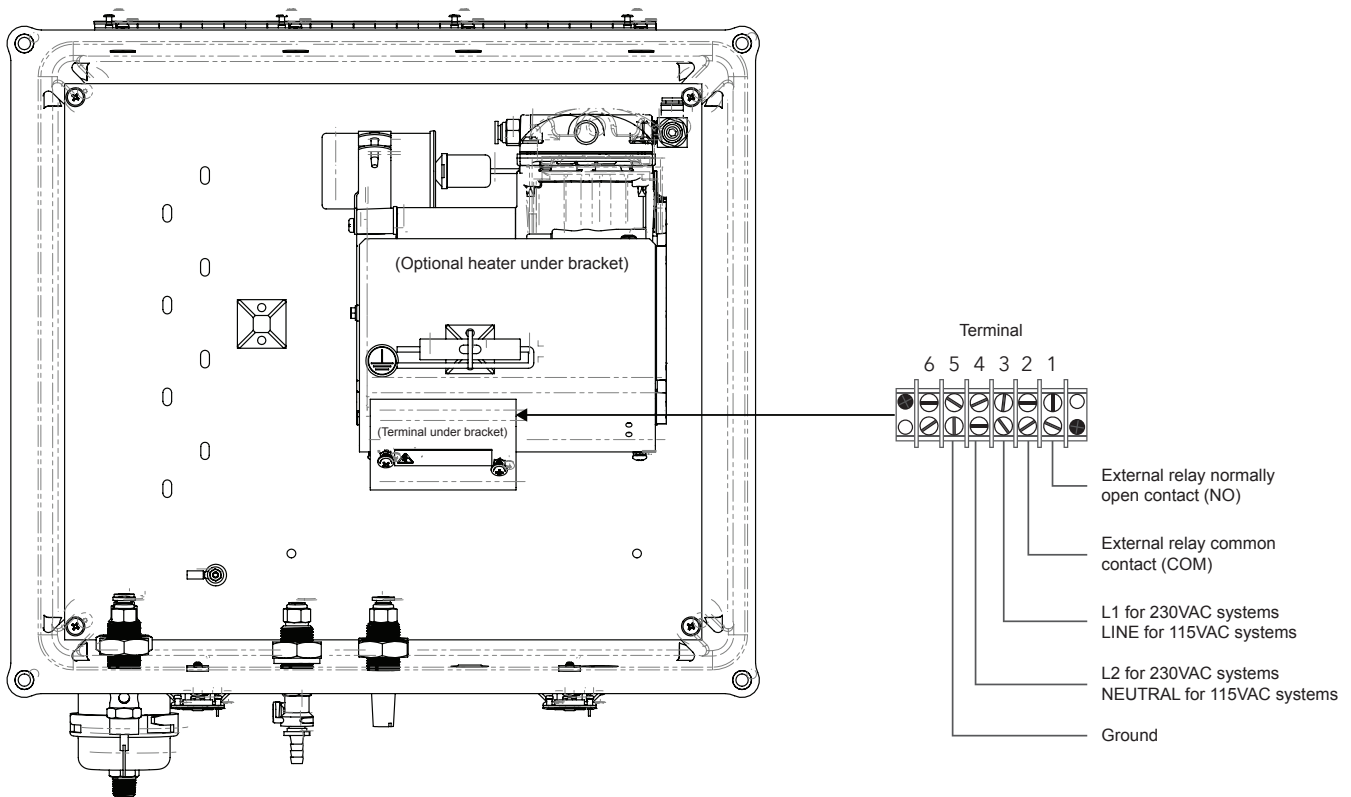

Figure 6 Wiring information for single channel units. Pin 6 is not used.
1. Remove the protective cover labeled 115 VOLTS or 230 VOLTS that is covering the terminal wiring block. Remove the protective cover by removing the two screws, see Figures 6, 7 and 8.
2. Connect mains power, ground, and external relays, see Figures 6, 7 and 8.
- d. The heater should be installed under the bracket as shown in the wiring diagrams, **Figures 6, 7 and 8**.
- d. To wire the heater to a single channel YSI Air Compressor, connect one wire to location 3 on the terminal block, the other wire to location 4. See **Figure 6**.